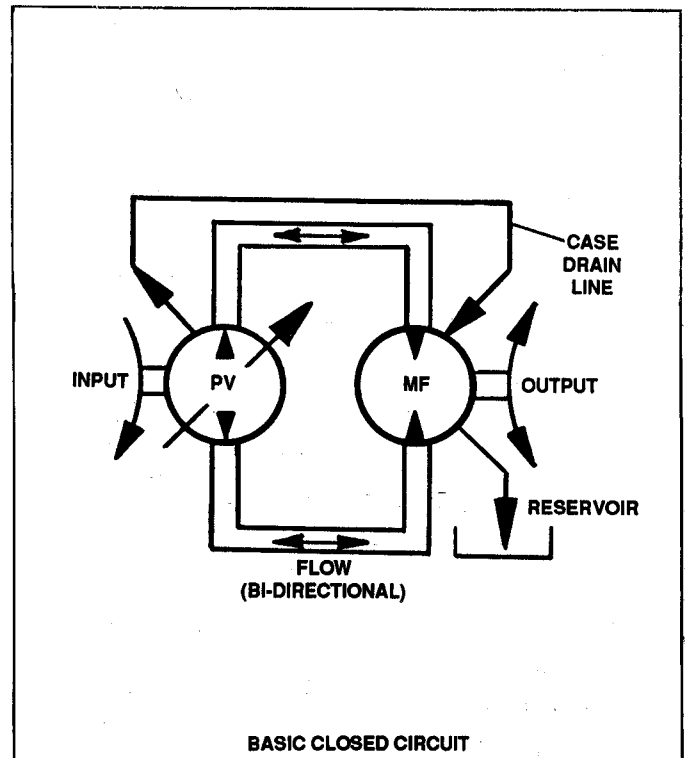

FIGURE 9.11
(2) An integral system in which the pump and motor are contained in the same housing with pressurized fluid internally contained.
(b) The variable pump (PV) is driven by a prime mover, typically an internal combustion engine. The fixed motor (MF) drives the vehicle transmission or other work function. Direction of rotation and speed of the motor shaft depends on the output flow of the pump. System pressure is dependent upon vehicle tractive resistance or other work function requirements. See Figure 9.11.